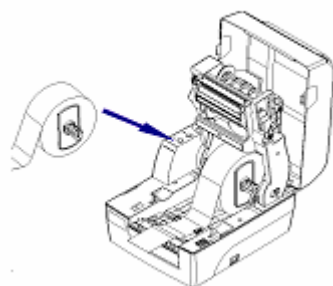

Figure 2.4.3
- 4) Drop paper roll on the paper holder to the paper room, then pull out the front end of the paper and put it in the print path flatly, and also release the paper guide to hold it. (See figure 2.4.3)